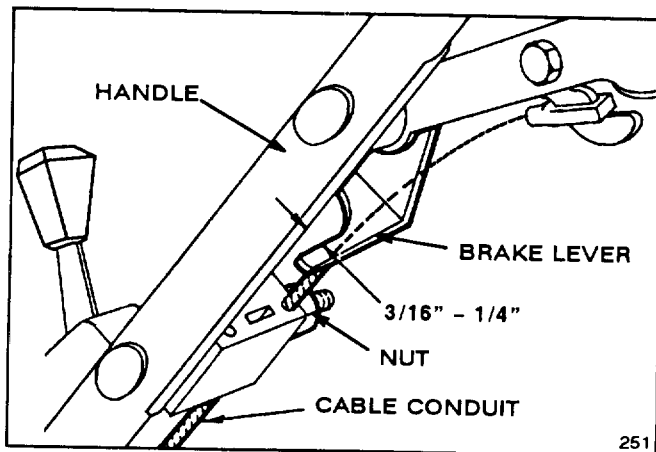

Figure 19
2. **CHECK ADJUSTMENT** (Fig. 19)—Move control bar toward handle until slack in wire is removed. Gap between brake lever and handle must be $3/16"$ – $1/4"$. See step 3 for adjustment.
3. **ADJUST CABLE CONDUIT** (Fig. 19)—Loosen nut on cable bracket. Insert $3/16"$ – $1/4"$ object between brake lever and handle. Pull down on cable conduit until all slack is removed from wire. Then tighten nut.